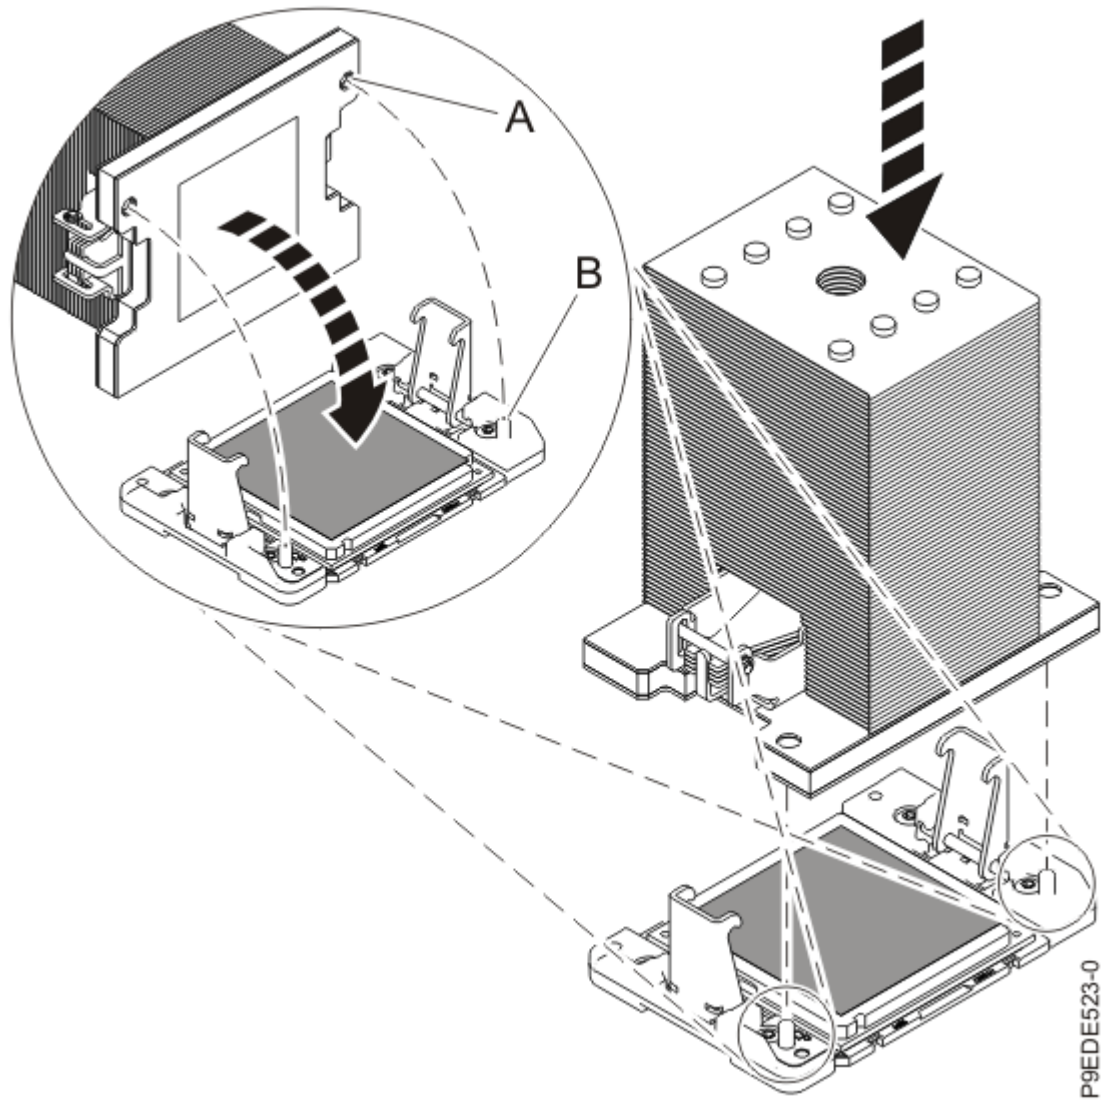

Figure 29. Installing the heat sink on the TIM
b) Place the heat sink on the TIM as shown in Figure 29 on page 32.